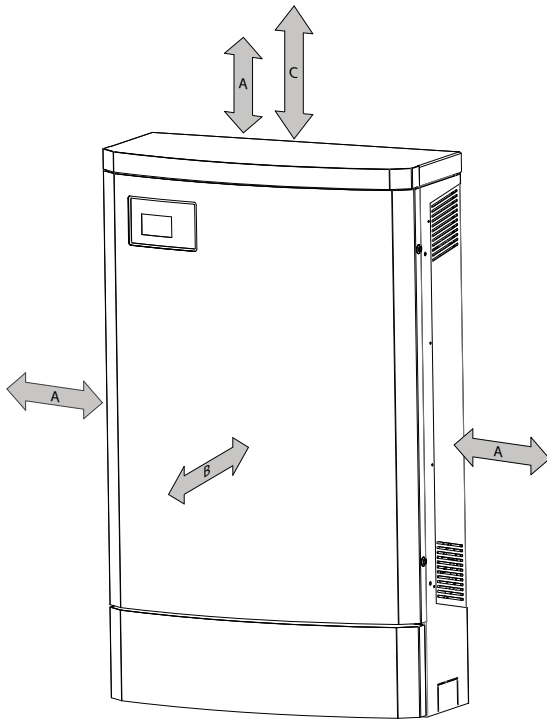

Figure 6: Minimum clearances
- Minimum clearance during installation: Figure 6 on page 15.